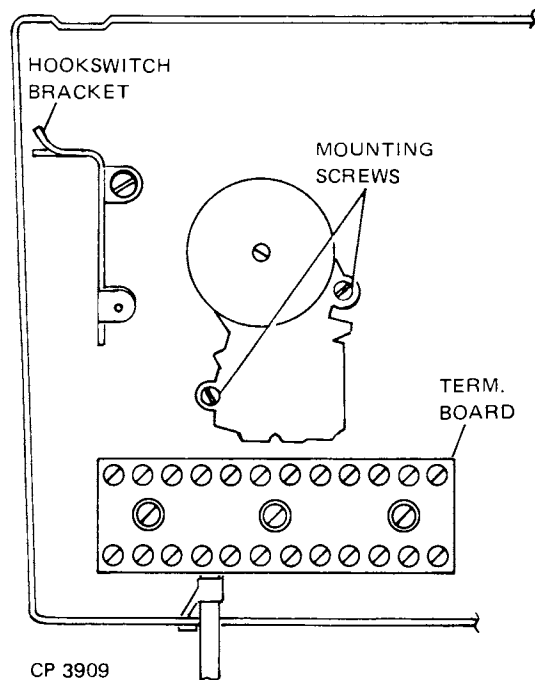

Figure 3. S-C Series 20 Straight-Line Ringer Mounting
1. S-C series 20 straight-line ringer (see fig. 3).